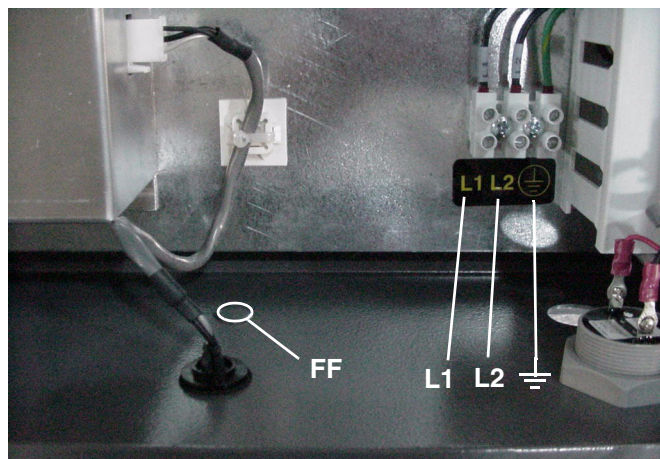
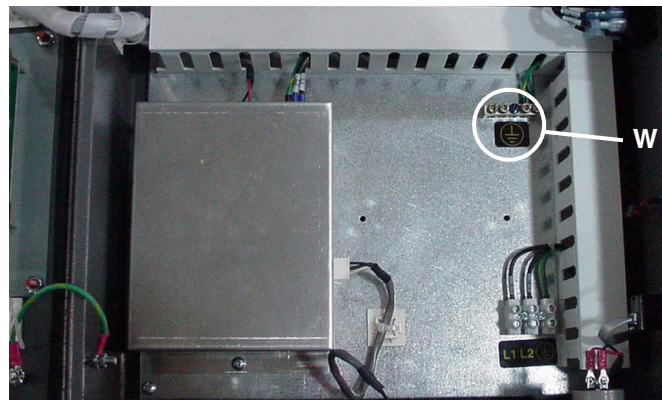

FIG. 21
FIG. 22
3. See FIG. 21 for the L1, L2, and ground wiring connections inside the EasyKey™ Display.
Remove knock-out (FF) from bottom of EasyKey™ Display enclosure. FIG. 21. Install a bulkhead strain relief. Connect a ground wire to the ground block terminal (W). FIG. 22. Route the wire through the strain relief and connect it to a true earth ground.